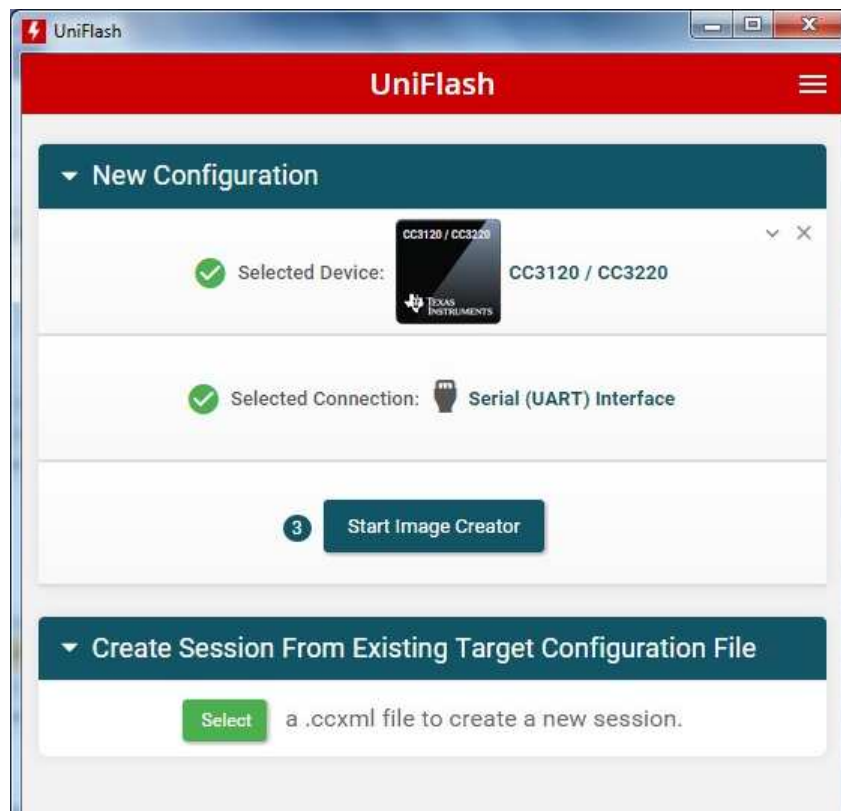

Figure 10. UniFlash Main Configuration Page
2. Launch UniFlash, select CC3120/CC3220 device, and then click the *Start Image Creator* button (see Figure 10).